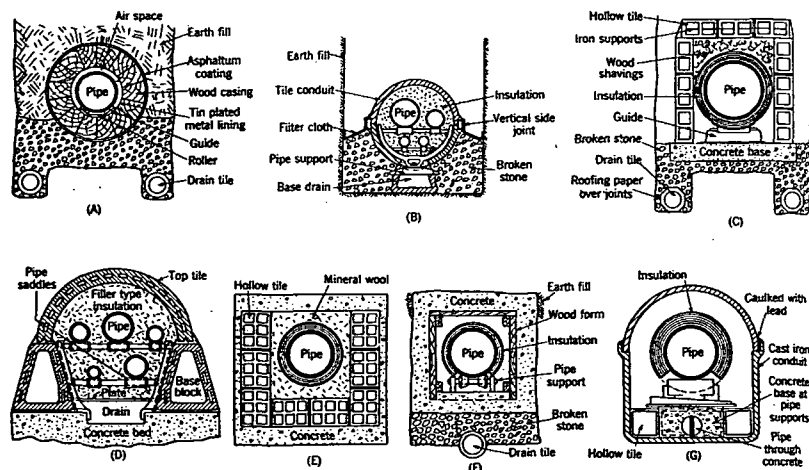

FIG. 1. CONSTRUCTION DETAILS OF CONDUITS COMMONLY USED
There are many types of conduits, some of which are manufactured products and some of which are built in the field. The styles and construction of conduits commonly used may be classified as follows. Some of the more common forms are illustrated in Fig. 1.
**Wood Casing:** The pipe is enclosed in a cylindrical casing usually having a wall 4 in. thick and built of segments which are bound together by a wire wrapped spirally around the casing. The casing is lined with bright tin and coated with asphaltum. The pipe is supported on rollers carried in a bracket which fits into the casing. The lengths of casing are tightly fitted together with a male and female joint. This form of conduit is illustrated in Fig. 1 at A. The casing rests on a bed of crushed stone with tile drains laid below. The tile drains are of 4-in. field tile or vitrified sewer tile, laid with open joints.
**Filler Type:** The pipes are supported on expansion rollers properly supported from the conduit or independent masonry base. The pipes are protected by a split-tile conduit, and the entire space between the pipes and the tile is filled with an insulating filler. Thus the pipes are nested and the insulation between them and the tile effectively prevents circulation of air. The conduit is placed on a bed of gravel or crushed rock from 4 to 6 in. thick, which is extended upward so as to come about 2 in. above the parting lines of the tile. A tile underdrain is placed beneath the conduit throughout the entire length and is connected to sewers or to some other point of free discharge. At B and D in Fig. 1 are shown two forms of tile conduit of the filler type.
**Sectional Insulation Type (Tile or Concrete Trench):** A type of construction frequently used in city streets, where service connections are required at frequent intervals, the pipes are insulated as described in the preceding paragraph, and are enclosed in a box or trench made either entirely of concrete, or with concrete bottom and specially constructed tile sides and tops. The pipes are supported on roller frames secured in the concrete. At C and E, Fig. 1, are shown two tile conduits using sectional insulation. In these particular designs the space surrounding the pipe is filled partially or wholly with a loose insulating material. The use of loose material in addition to the sectional insulation is, of course, optional and is only justifiable where high pressure steam is used. The conduit shown at F is of a similar type and has the advantage of being made entirely of concrete and other common materials.
**Special Water-Tight Designs:** It is occasionally necessary to install pipes in a very wet ground, which calls for special construction. The ordinary tile or concrete conduit is not absolutely water tight even when laid with the utmost care. The conduit shown at G, Fig. 1, is of cast-iron with lead-calked joints and is water-tight if properly laid. It is obviously expensive and is justified only in exceptional cases. A reasonably satisfactory construction in wet ground is the concrete or tile conduit with a water-proof jacket enclosing the pipe and its insulation, and with the interior of the conduit carefully drained to a manhole or sump having an automatic pump. It is useless to install external drain tile when the conduit is actually submerged.